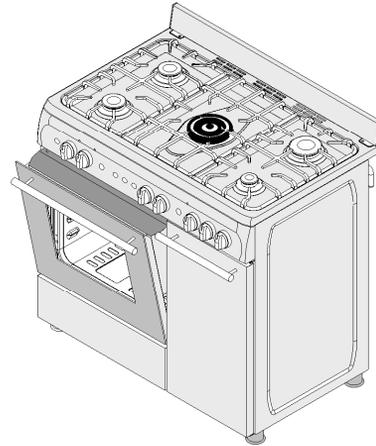

Figure 3
4. And then secure the safety panel in between oven and front cover by gently closing the cover. (Figure 3)